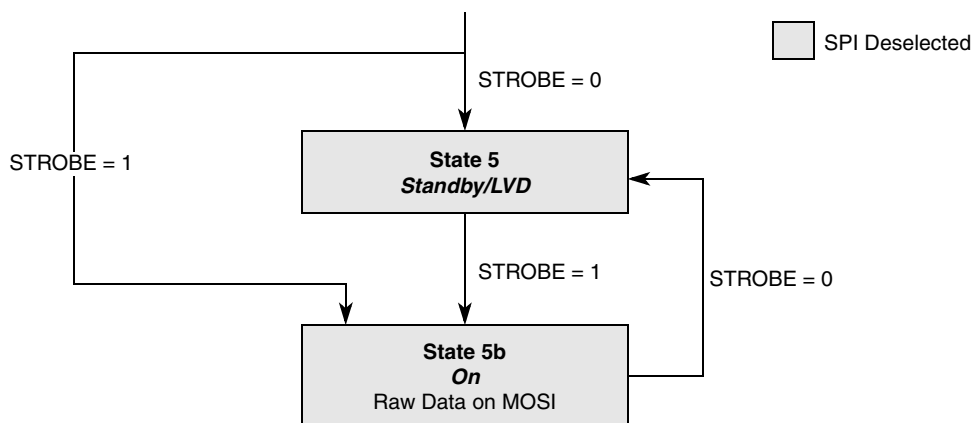
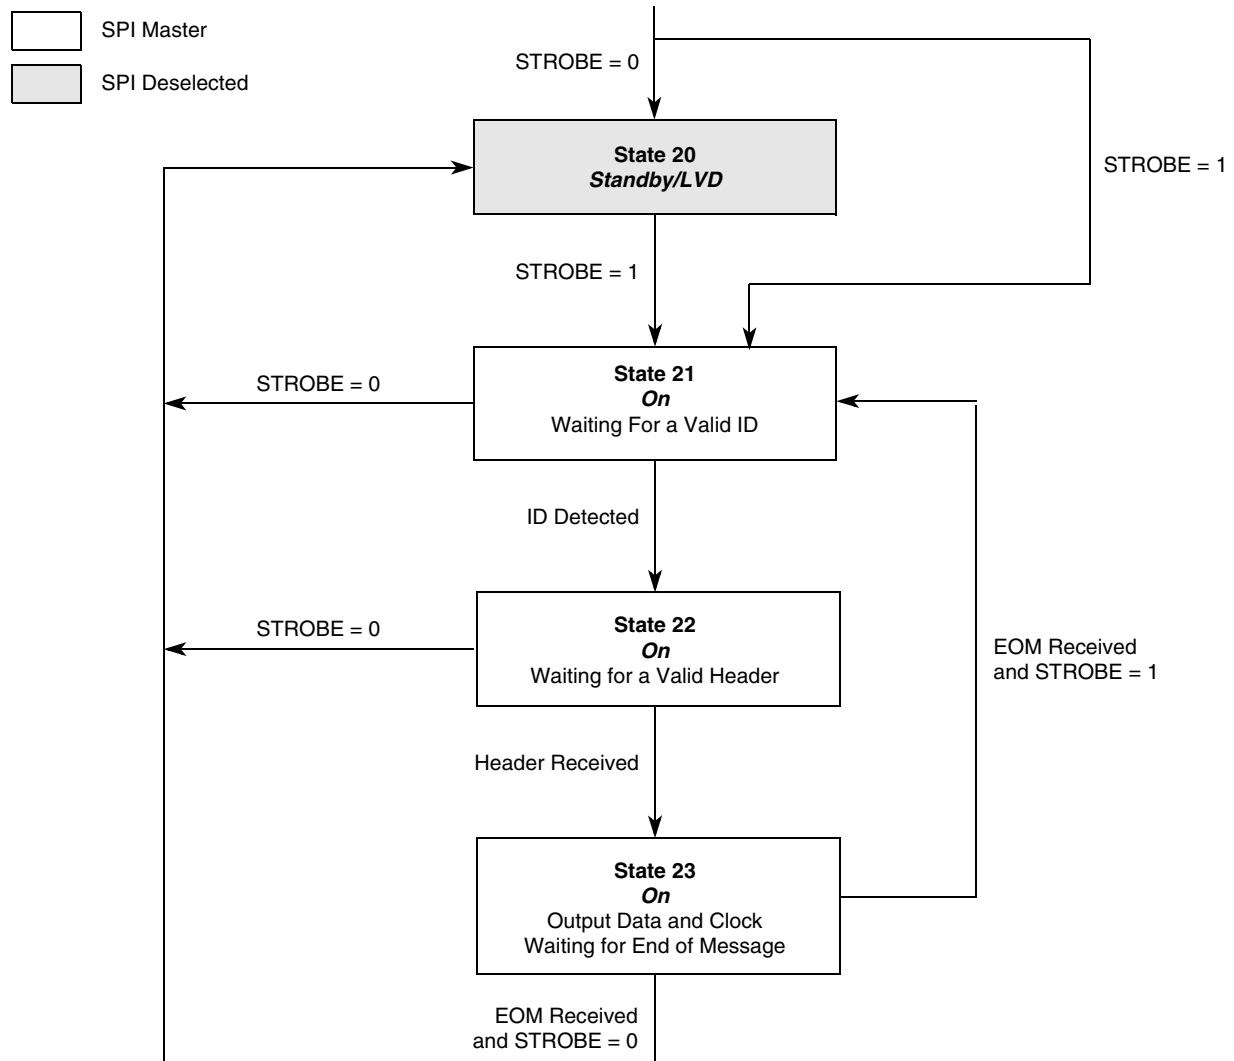

Figure 33. Receive Mode, DME = 0, SOE = 0
Figure 35. Receive Mode, DME = 1, SOE = 0
- External signal and internal conditions: see Figure 33 and Figure 35 for information on how to enter standby/LVD mode.
Raw received data are sent directly on the MOSI line. Figure 33 shows the state diagram.
Figure 35 shows the state diagram when the data manager is enabled and the strobe oscillator is disabled. In this configuration, the receiver is controlled only externally by the MCU.